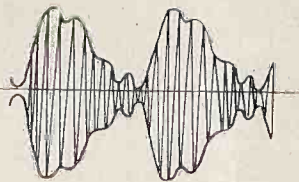
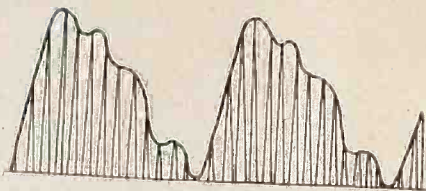

FIG. 359
FIG. 360
(1)—The resultant modulated carrier wave, before rectification is shown in Fig. 359. (2)—The resultant modulated carrier wave after rectification is shown in Fig. 360.